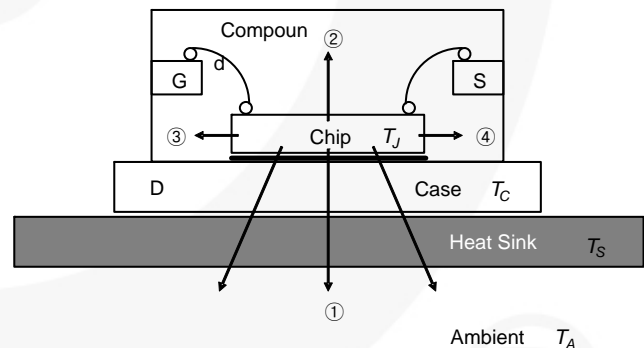
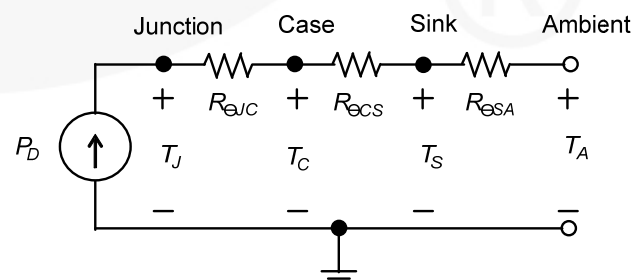

Figure 25. Thermal Discharge Path at Chip Junction
Figure 26. Circuit Based on Thermal Resistance
As shown in Figure 25, the heat produced at the chip junction normally discharges over 80% in the direction of ① and about 20% in the direction of ②③④. The path of the thermal discharge is the same as the movement of the current and is represented in Figure 26 after considering thermal resistance. This is true only for DC operation. Most MOSFETs are used in switching operations with a fixed duty factor. Thermal capacitance should be taken into consideration, along with thermal resistance. The thermal resistance from the chip junction to the ambient is $R_{\theta JA}$ (junction-to-ambient thermal resistance) and the equivalent circuit can be expressed as Equation (12).